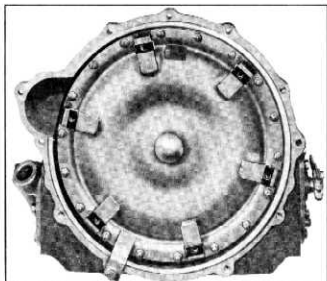

Fig. 204—Converter Assembly Holding Tool
- Install converter holding tool, J-5384, to converter housing (fig. 204).